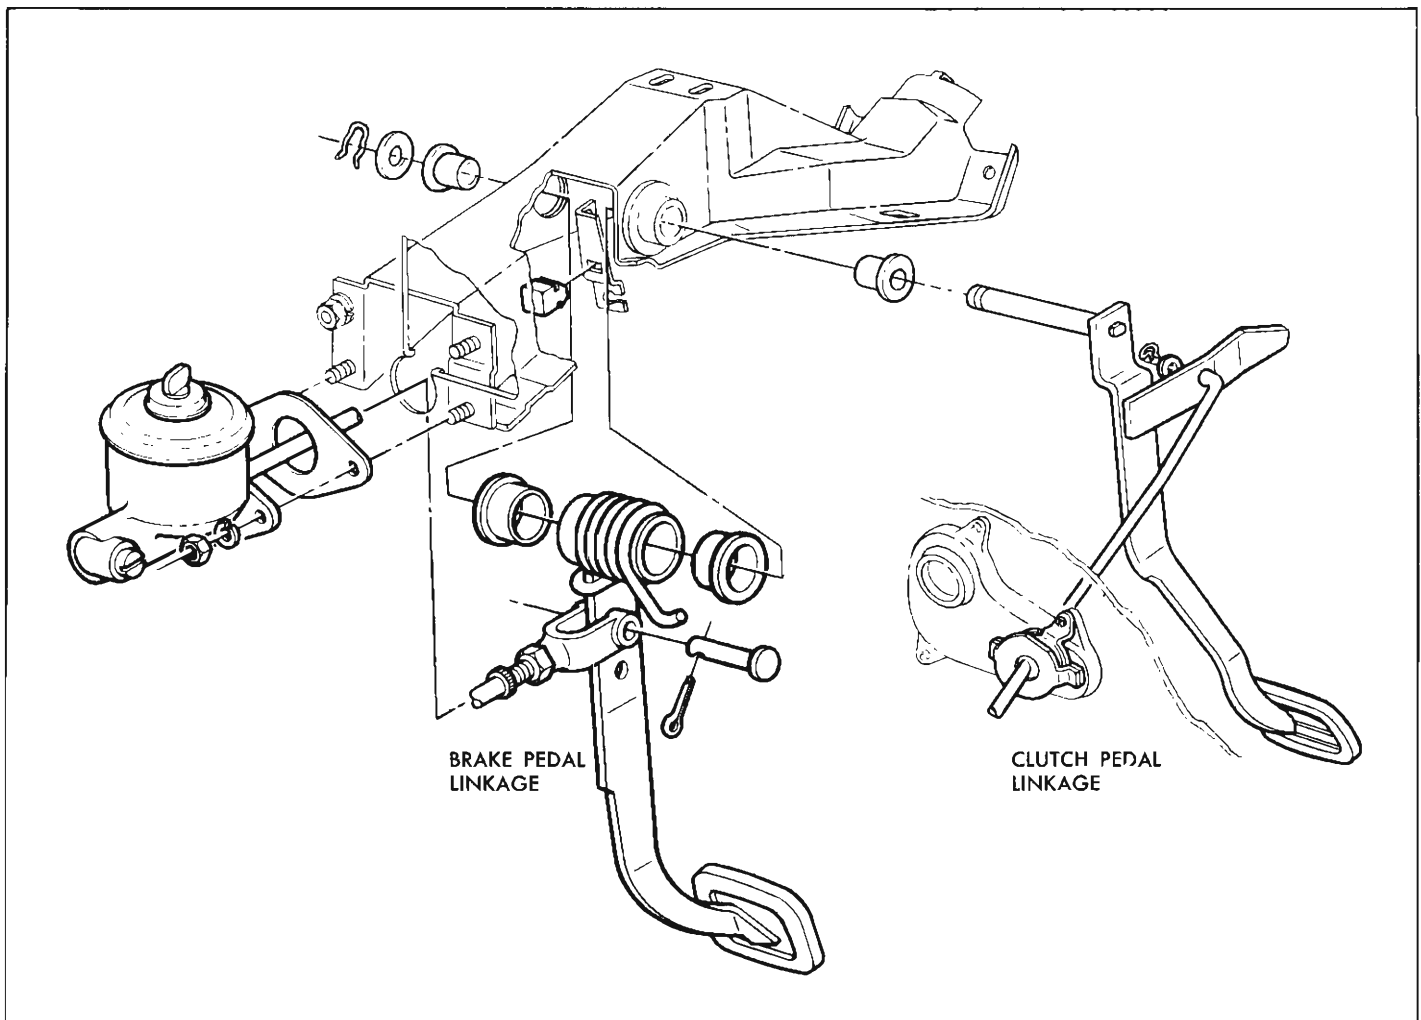

Fig. 3—Clutch and Brake Pedal Installation
2. Remove cotter pin and clevis retainer pin from brake pedal arm (fig. 3).